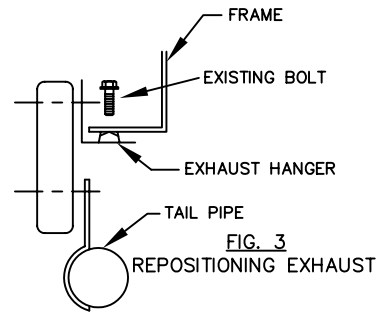

FIG. 3
**NOTE:** ON SOME MODELS, THE TWO REAR MOST ATTACHMENTS HAVE TWO (2) BOLTS CONNECTED WITH A PLATE. THE BOLTS WILL HAVE TO BE SEPARATED (SEE FIG. 3), DISCARDING REAR MOST BOLT AND REINSTALLING THE OTHER AS SHOWN.